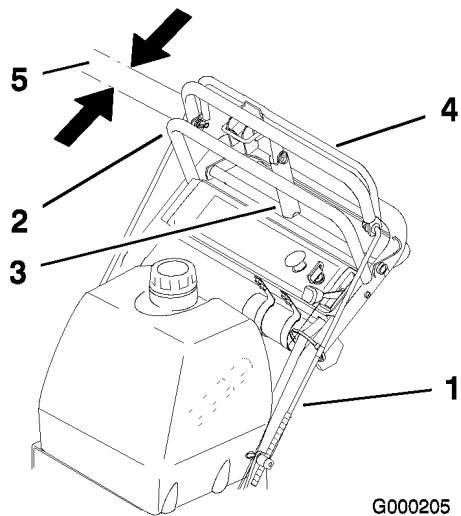

Figure 13
4. Check the gap between upper control bar and fixed bar with wheel drive fully engaged. Gap should be approximately 1 to 1-1/4 inch (25-32 mm) (Figure 13).